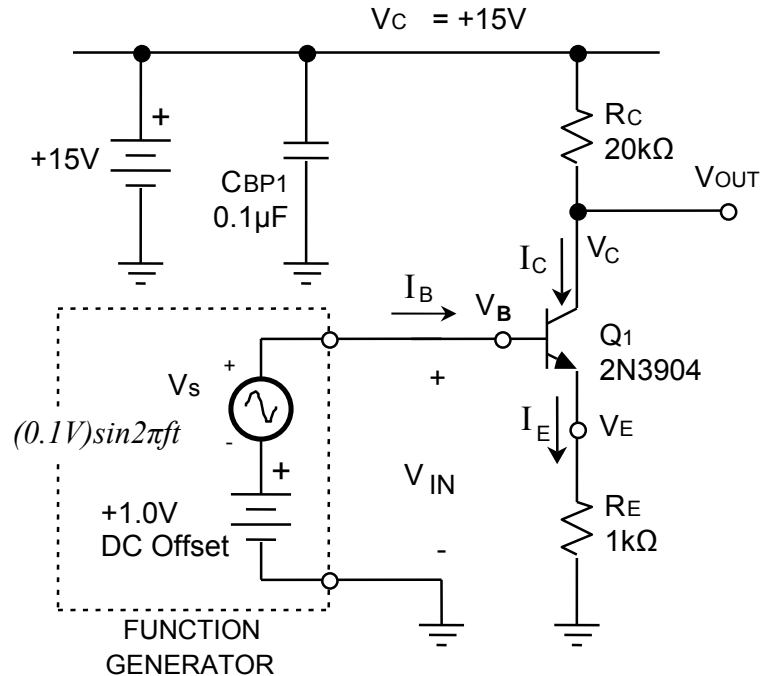
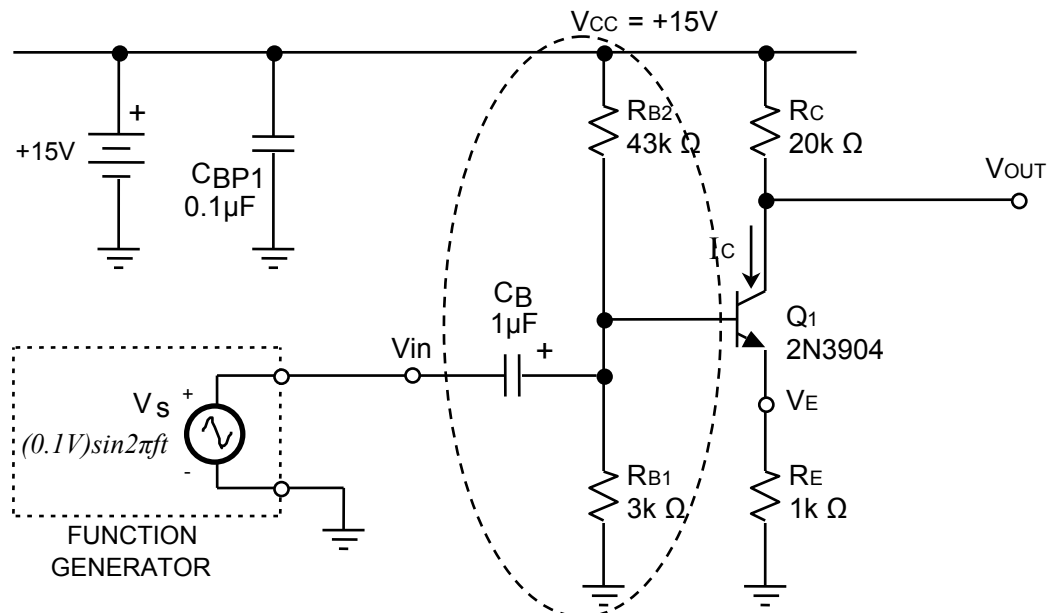

Figure 6-1
Figure 6-2.
- P1. Determine the DC bias for the BJT Common Emitter Amplifier circuit of Figure 6-1 (in this lab) including the voltages V_B , V_C and V_E , as well as the currents I_B , I_C and I_E . Assume that $\beta = 100$.
- P3. Simulate the circuit of Figure 6-1 and provide plots of v_{OUT} and v_{IN} as a function of time for two complete cycles of each waveform and compare to your hand analysis.
- P4. Repeat the simulation for the circuit of Figure 6-2 which uses *voltage-divider-bias* so that the input signal can be referenced to ground. Again, provide plots of v_{OUT} and v_{IN} as a function of time for two complete cycles of each waveform.
- L1. Build the amplifier circuit shown in Fig. 6-1. Note that the supply voltage is +15V (record the actual value to use in calculations).
- L7. Modify the previous circuit of Figure 6-1 by eliminating the DC bias provided by the Function Generator (i.e. setting the DC Offset to zero) and adding the *voltage divider* (R_{B1} , R_{B2}) as shown in Figure 6-2. NOTE: Voltage dividers are often used to allow *Single-Supply Operation* when biasing transistor amplifiers.
- L9. Using the scope or DMM measure the DC voltage at both the base and collector of the transistor and verify that these voltages are similar to the previous circuit of Figure 6-1. How effective is the voltage divider at providing the same bias for the circuit?
- L10. Measure the small-signal voltage gain of this amplifier circuit (similar to step L6) and verify that it is the same as the previous circuit of Figure 6-1.
W1. Compare the simulated, measured and calculated DC Bias values for the BJT Common Emitter Amplifier of Figure 6-1 and explain any similarities or differences. What are your sources of error?